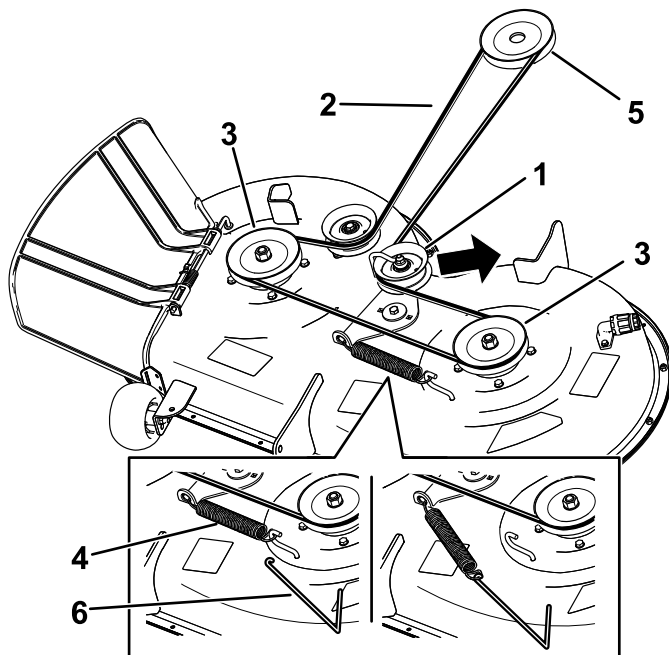

Figure 52
6. Using a spring-removal tool (Toro Part No. 92-5771), remove the idler spring from the deck hook to remove tension on the idler pulley, and roll the belt off the pulleys (Figure 52).
7. Route the new belt around the engine pulley and mower pulleys (Figure 52).
8. Using a spring-removal tool (Toro Part No. 92-5771), install the idler spring over the deck hook and place tension on the idler pulley and the mower belt (Figure 52).